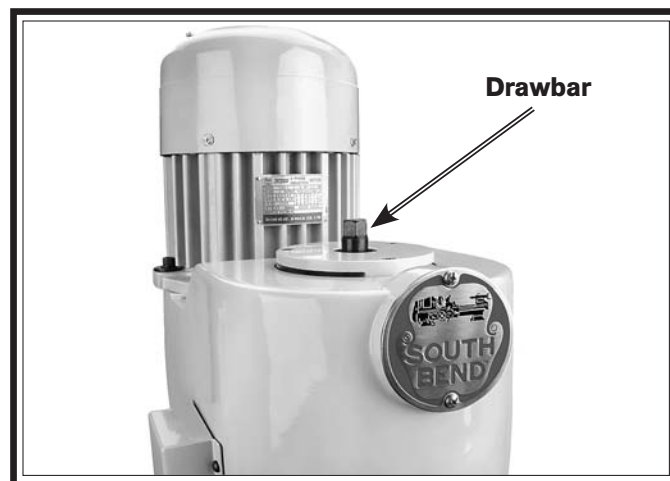

Figure 44. Drawbar loaded into the spindle.
5. With one hand holding the tool in place, insert the drawbar into the spindle from the top of the head, then thread it into the tool (see **Figure 44**).